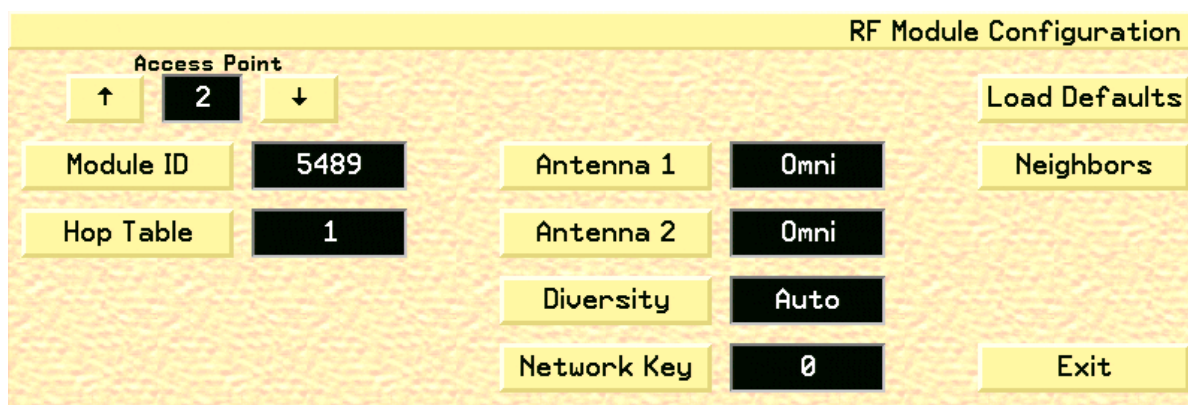

Fig. 68. RF Module Configuration Screen
2. Access the RF Module Settings screen (page 111), highlight the RF Module that you would like to configure, and click the **Select** button on the RF Module Status screen to open the RF Module Configuration screen (fig. 68).
- From the Access Point Configuration screen (page 108), click the **Mod Config** button to access the RF Module Configuration screen (fig. 68).